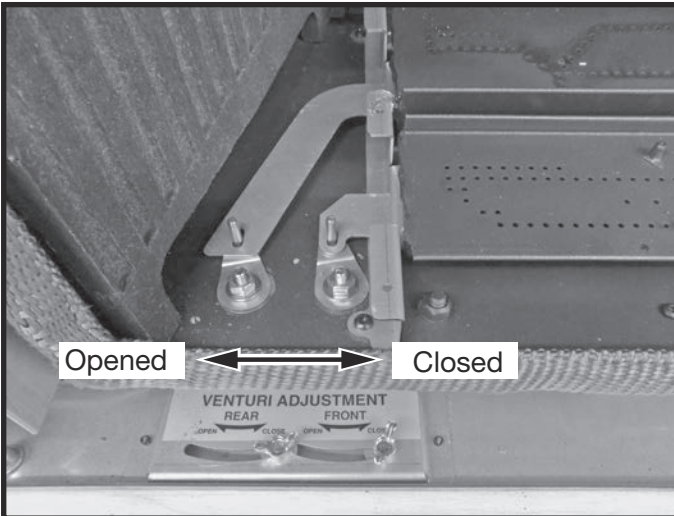

Figure 48: Tofino venturi adjustments.
3. With the fireplace turned on, use the adjustments (Figure 48) to adjust for flame appearance.